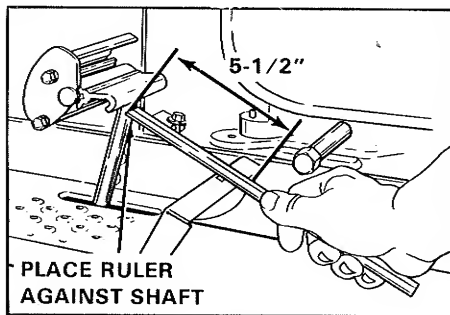
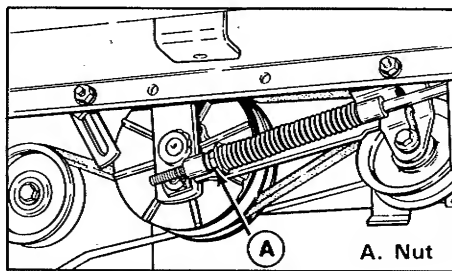

Figure 26. Pedal to Footrest
Figure 27. Adjustment Nut
10. Measure the distance from the pedal shaft to the forward edge of the footrest as shown in figure 26. If it measures 5-1/2 inches (140 mm), go on to step 11. If not, tighten the nut (A, figure 27) toward the spring to increase the measurement or loosen the nut to decrease the measurement. Recheck the measurement and adjust the nut as necessary to achieve the correct measurement.